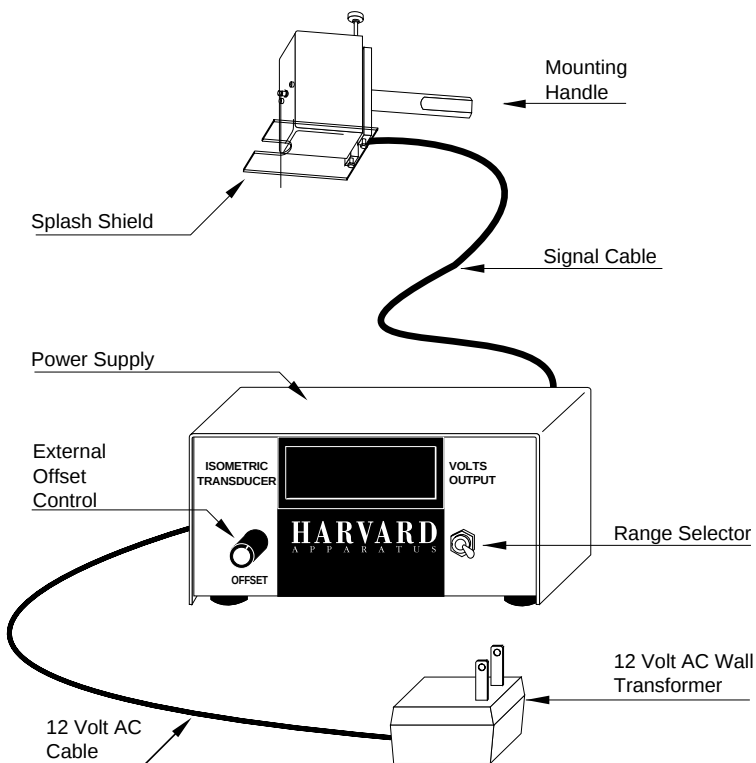

Figure 2. Diagram of Isometric Transducer
- The entire transducer is powered by a 12 volt AC wall transformer. (See Fig. 2)
The range selector switch has two positions: 50 gram and 500 gram (See Fig. 2)
The OFFSET control enables the user to set a zero output voltage for any pre-load value. (See Fig. 2) It is essentially a "Tare Control" device since it balances out static loads such as the weight of the muscle preparation prior to contraction.